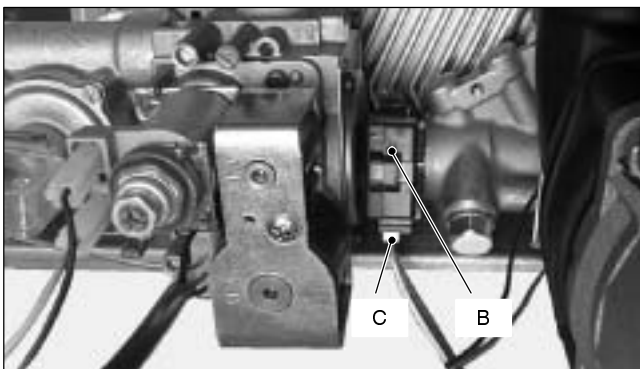

Fig. 57
- 2 Switch on the boiler and open a d.h.w. tap. The lamp *B* (Fig. 57) placed on the sensor body is switched on when the flow rate reaches about 2,5 litres/min'.
- 2 Disconnect the connector *C* (Fig. 57) and remove the sensor by pulling it towards the front of the boiler (the sensor is held in place by means of a spring).